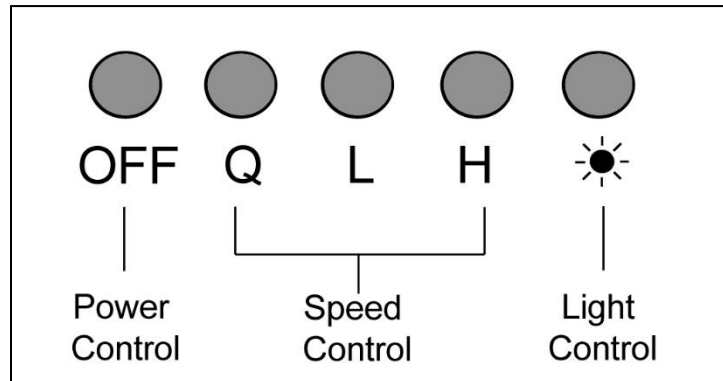

Figure 4
18. Attached the rubber plate and 6" Round exhaust vent adapter to the exhaust opening and use 6 4*16 screws to secure it. Refer to Figure 4.